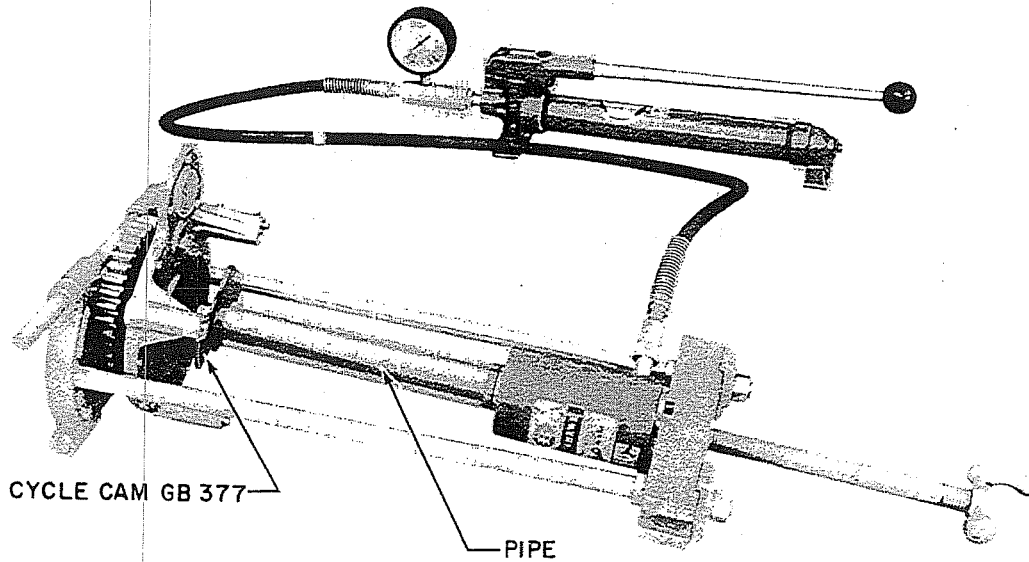

Figure 34. 1 to 1 Shaft, Installation of Cycle Cam GB377
- T. Secure the bearing pulling attachment behind Spur Gear GB368. Use pipe specified in step S to press Outer Extended Cycle Cam GB377 onto Shaft GB381 (figure 34). The shaft should be cleaned and lubricated prior to assembly.